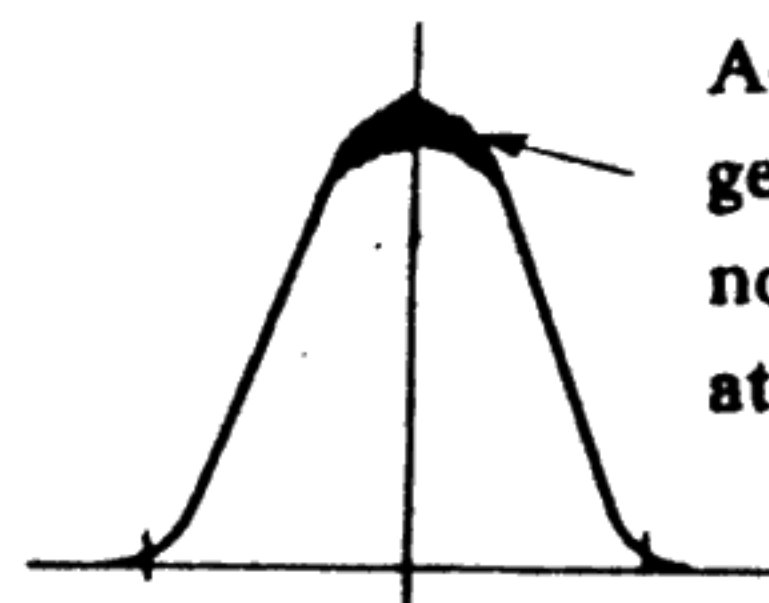
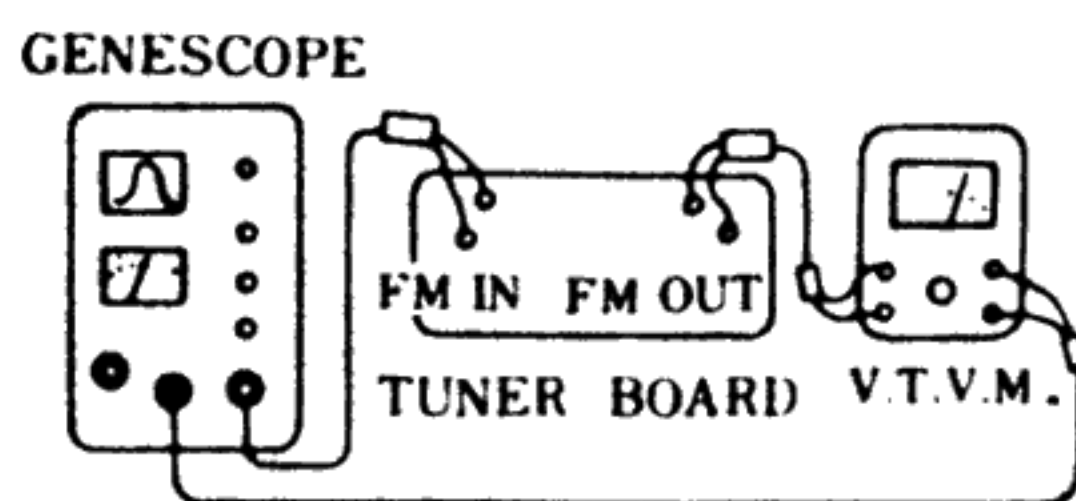
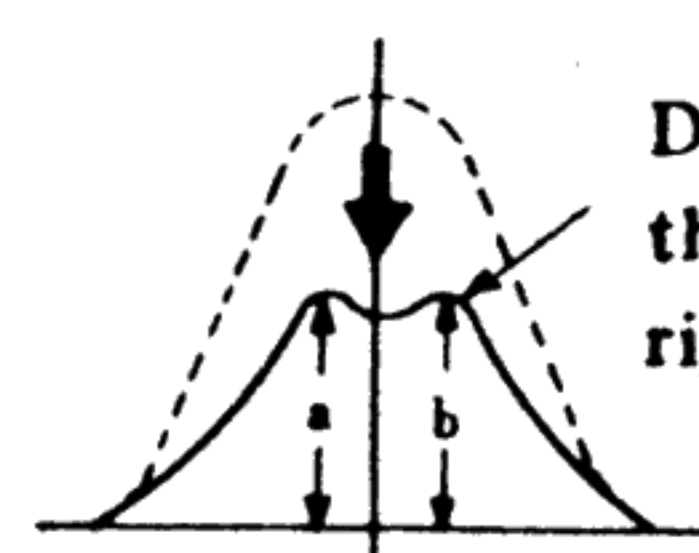

Fig. 11
Fig. 12
Fig. 13
- (1) At the article 1-(2). By the core of T101, T102, T103 and T105 let it be adjusted so that the gain will be max. And the wave form should be adjusted so that it will be the one of the Fig. 11. In this case, the output voltage at the surveying point of TP. 2 is weak, so let it be adjusted by connecting shown at Fig. 12, using V.T.V.M. Next, adjust it by T109 core, so that the wave form of Fig. 11 will dip just as Fig. 13 and at this time of adjustment stop the oscillation. (Oscillation variable capacitor is shorted.)